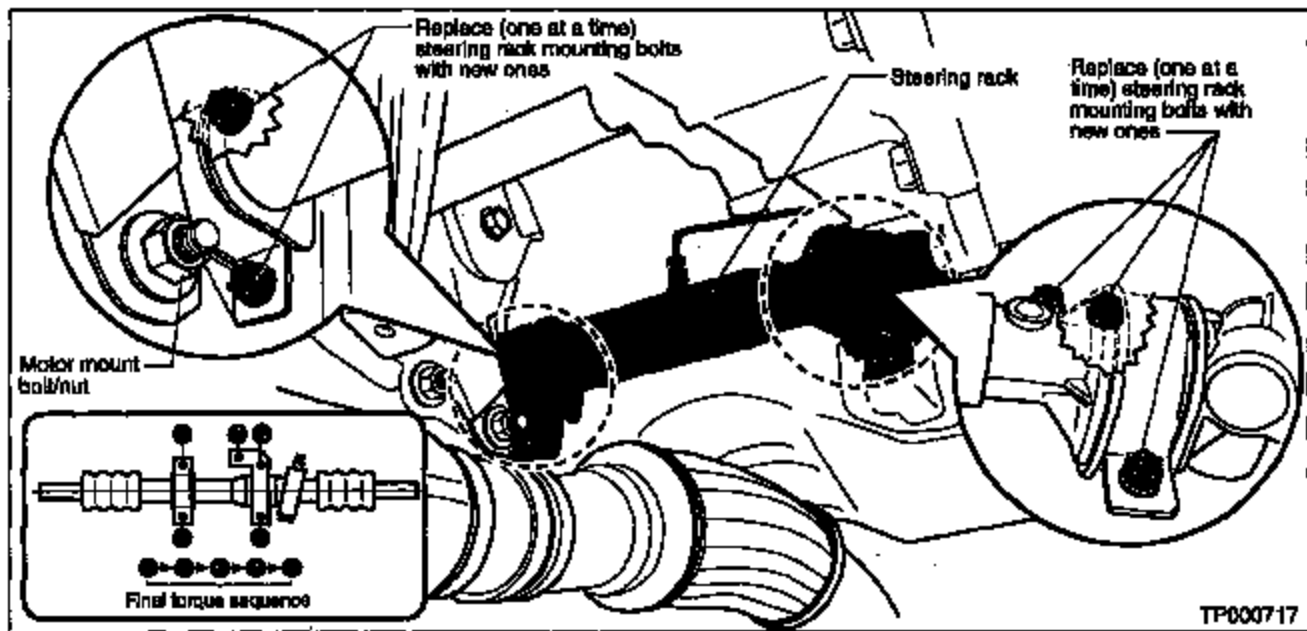

Figure 4
2. Replace, one at a time and finger-tight ONLY, the five old steering rack mounting bolts with the new bolts. See Figure 4.
3. Tighten the new steering rack mounting bolts to 78 Nm (8 kg-m, 58 ft-lbs) according to the "Final torque sequence" in Figure 4.